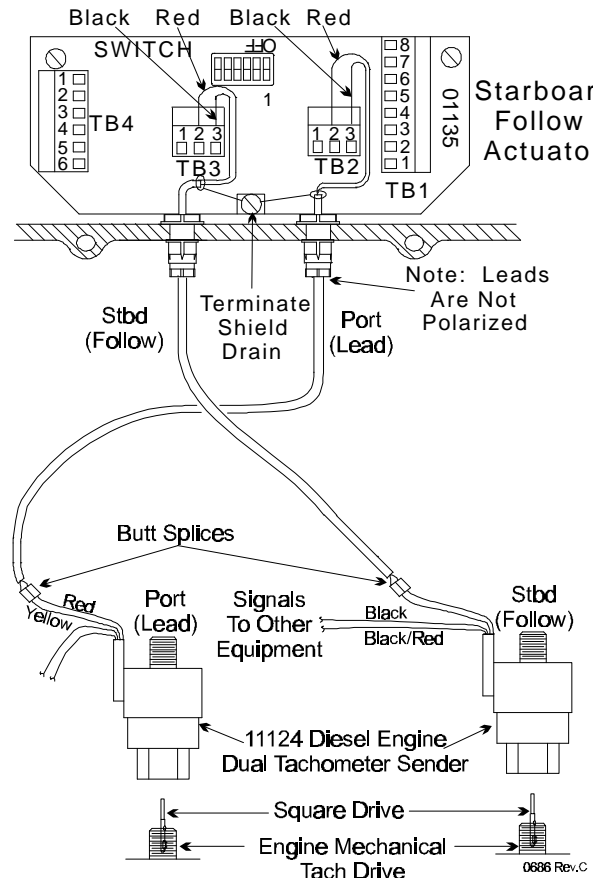
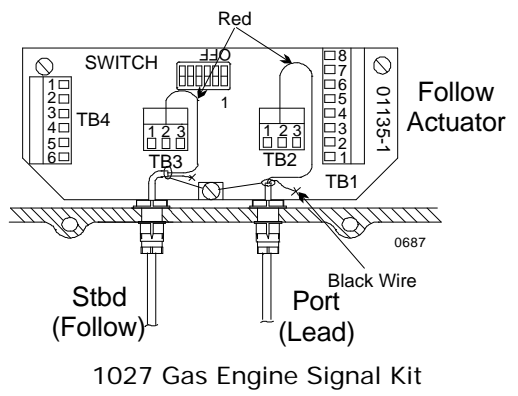

Figure 25 – Diesel Engine
Figure 26 – Gas Engine
F) The 1135 Starboard Auxiliary Board requires an electric pulse input in proportion to RPM from each engine. The electric pulse can come from a tachometer pulse generator driven by the engine mechanical tach drive. The electric pulse can also come from a magnetic pickup mounted in proximity of the flywheel ring gear. The 1135-1, Starboard Auxiliary Board, is required when gasoline engine speed pulses are taken from the point side of the coil. See Figure 25 and Figure 26.